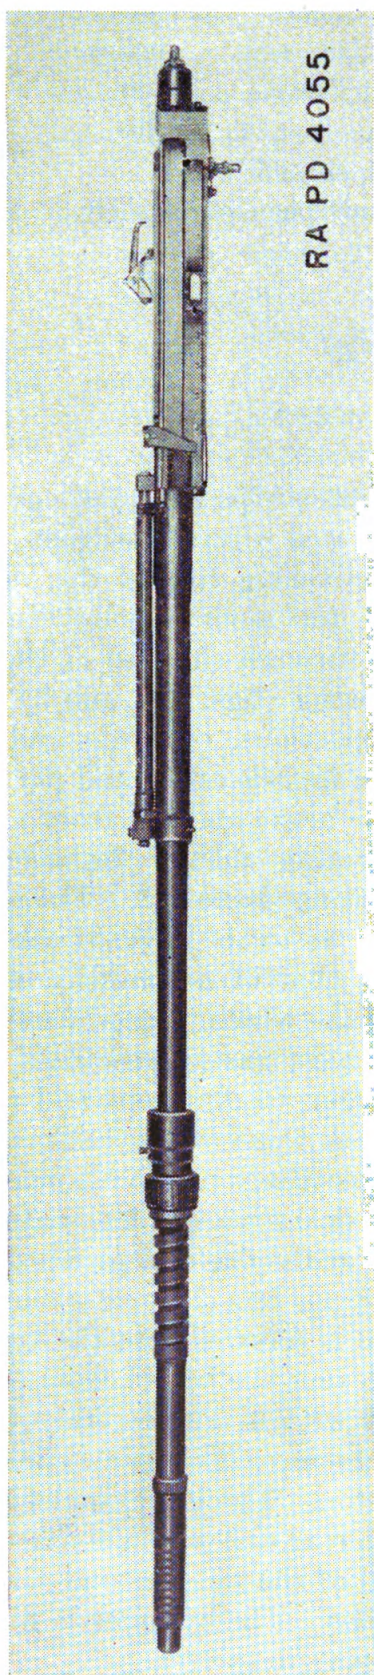

FIGURE 1.—20-mm automatic gun M2, general assembly, left-side view.
3. 20-mm gun M2.—*a.* The 20-mm, 2,850-fps automatic gun M2 is a combination gas and blowback operated aircraft weapon. The gun is air-cooled and is capable of delivering fire at the rate of 600-700 rounds per minute. Designed for mounting on “in-line” airplane engines, it may be fired either through the hub of the propeller or as a fixed gun mounted in the wing (figs. 1, 2, and 3).